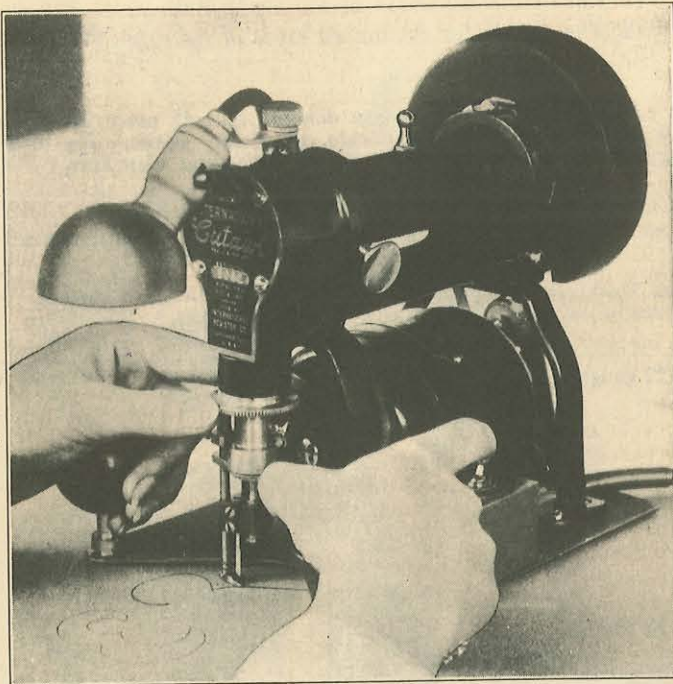

Figure 3
**A6—CUTTING.** Place the machine on the work, and connect the motor cord to any lamp outlet of 110 to 120 volt direct or alternating current. Grasp the ball handles as shown in figure 3. Tilt the machine back so that the chisel clears the work. Turn on the switch with a finger of the right hand as shown in figure 3. Take hold of the swivel by the knurled disc using the thumb and forefinger of the left hand. Turn the swivel until the now swiftly moving chisel points in the direction in which it is desired to cut. Then, still holding the knurled disc with the fingers, insert the moving chisel at the desired place.